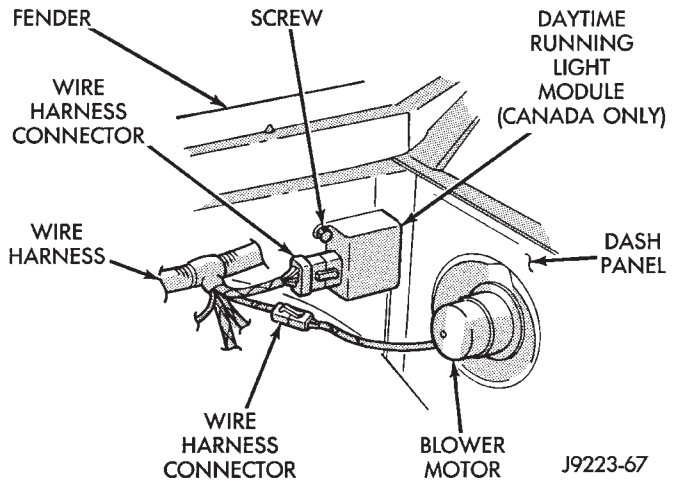

Fig. 46 Daytime Running Light (DRL) Module
- if equipped, remove the Daytime Running Light (DRL) module from the fender inner panel (Fig. 46).